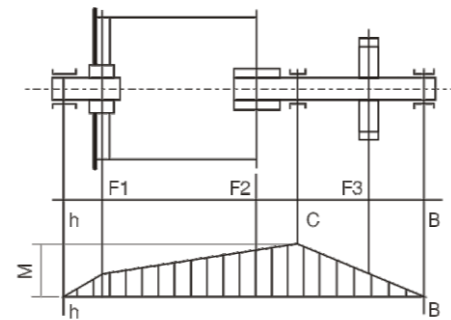

Fig.3
4. In case of a single drum drive with rigid connection of gear shaft and drum, (see Fig.3) a given load F and bending or alignment error will produce a max Bending moment at the end of the gear shaft and of M .